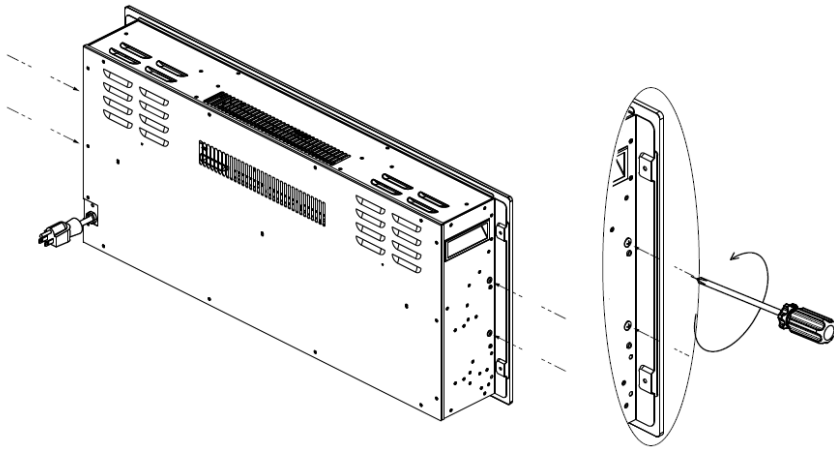
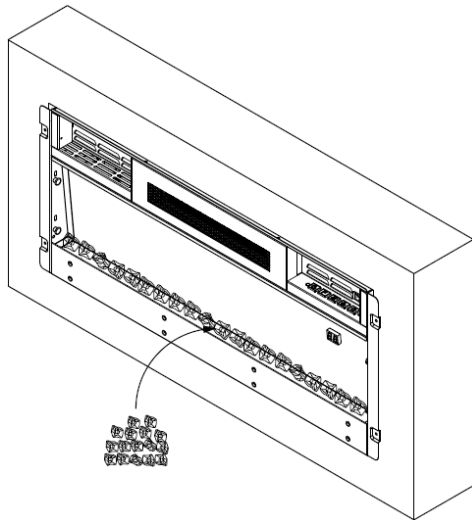

Fig.1
Fig.5
Installation (see Fig1 ~ Fig 5)
- Remove white screws on both side from the appliance first, see Fig.1
- Put the crystal stone to white board, see Fig.5